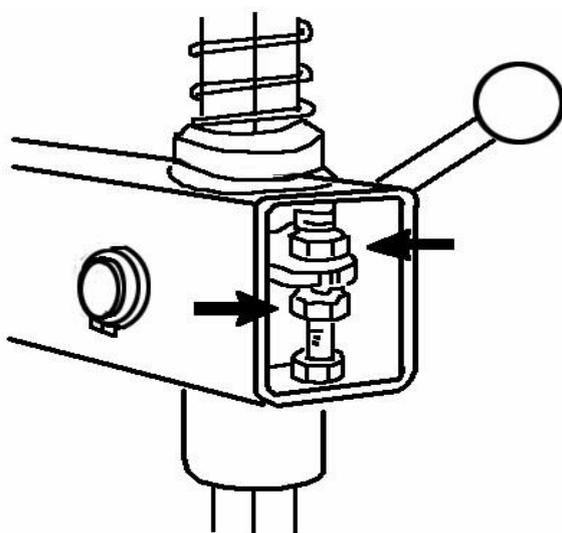

Fig.15
- c. After the first 20 days of work, retighten the clamp tightening screws and screws on the turntable slides (Fig.15).